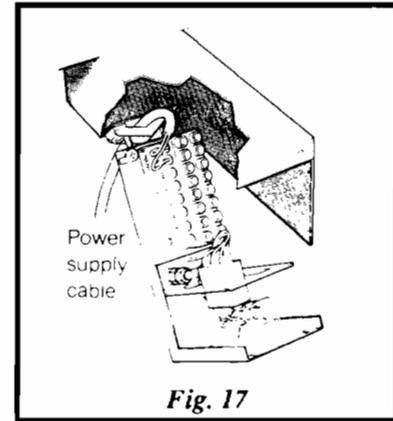

Fig. 17
14.16 Connect the power supply cable - see Fig. 17.